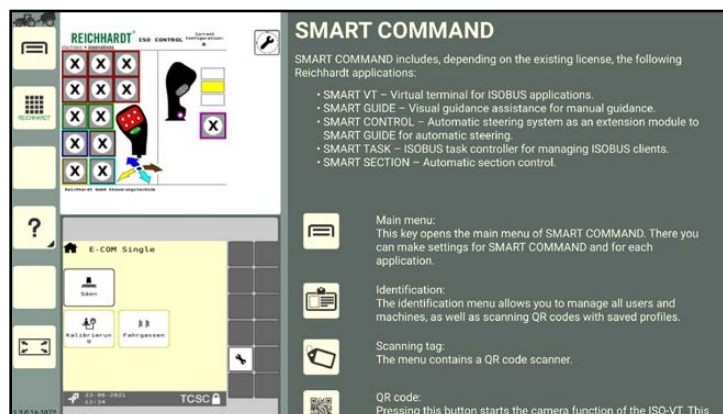

Fig. 79: Letting go of the application in the required window
3. Let go of the application (see Fig. 79).